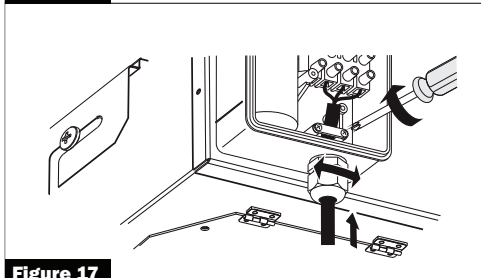

Figure 17
3. Lay out the cables through the terminal box lug, remove the insulation from the cables ends for 1/4 of an inch (6-7mm) length, connect them to proper terminals and fix with screws. (Figure 17)